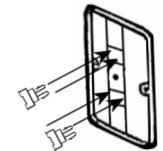

Figure 5 - Insert plastic clips to plastic bracket
- Insert the plastic clips to the plastic bracket as seen in "Figure 5"